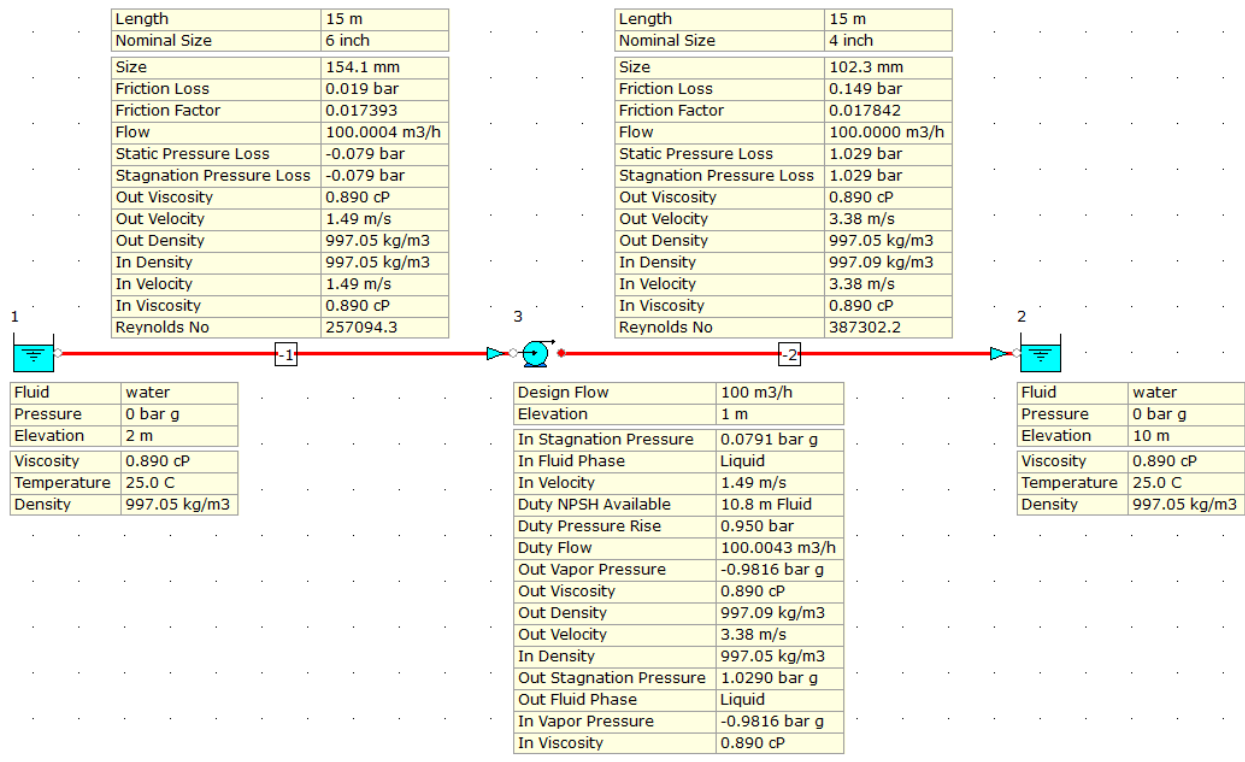

Figure 56: Hydraulic Model with Pump Properties.
61. The hydraulic model should now look like the screenshot given below (Figure 56).